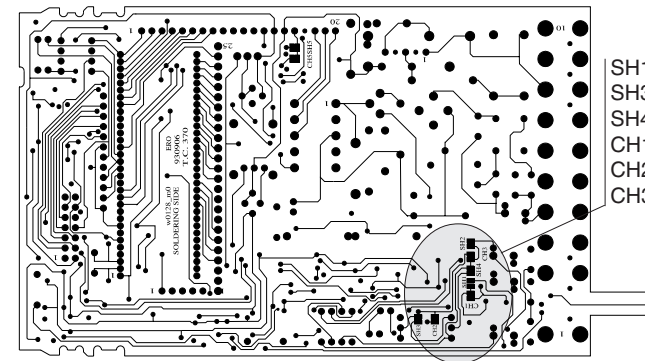

Fig. 3.1 CPU CARD (SOLDERING SIDE)
- 3) The standard TC burn-out protection sets the instrument to full scale ( standard). If you desire the down scale protection, close SH 1 locate on the component side and open CH1 located on the soldering side of the input card as shown in Fig. 3.1.